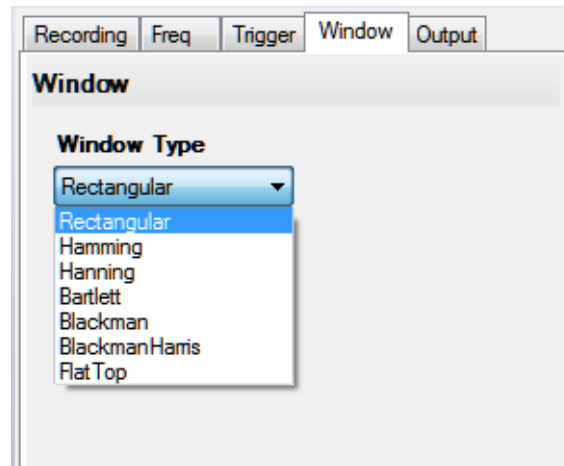
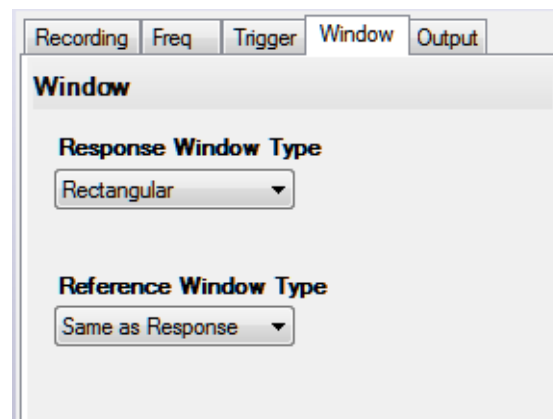

Figure 5: Window Tab for the FFT Analysis Option
Figure 6: Window Tab for the Advanced FFT Analysis Option
- **Window tab** – This tab allows you to specify a windowing function to apply to the FFT channel to reduce spectral leakage errors. If you are using the FFT Analysis option, the Window tab appears as shown in Figure 5. If you are using the Advanced FFT Analysis option, the Window tab appears as shown in Figure 6.